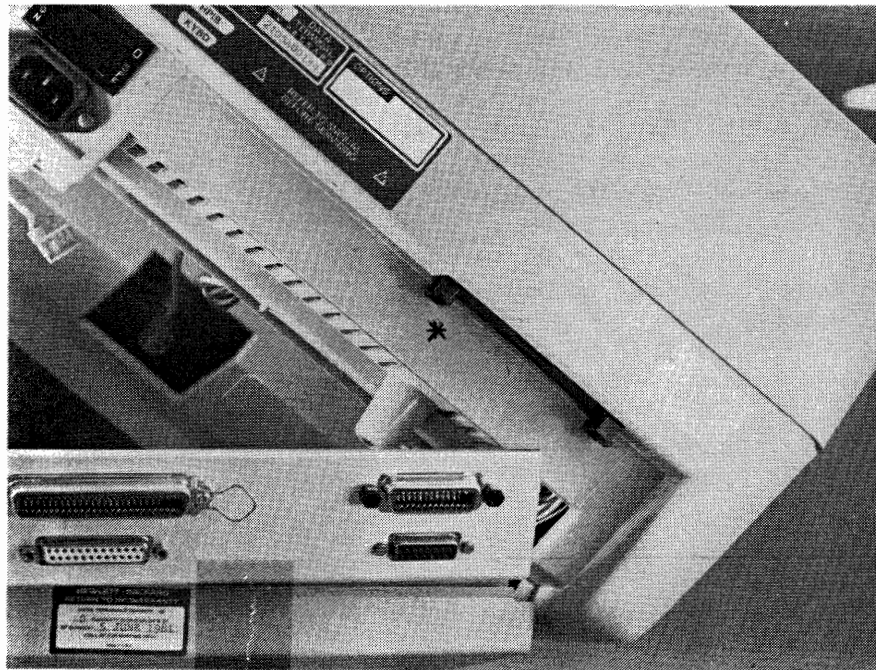

Figure 7-11. Battery Removal
6. Grasp and squeeze battery support clips and pull it downward for removal. (See figure 7-11.)